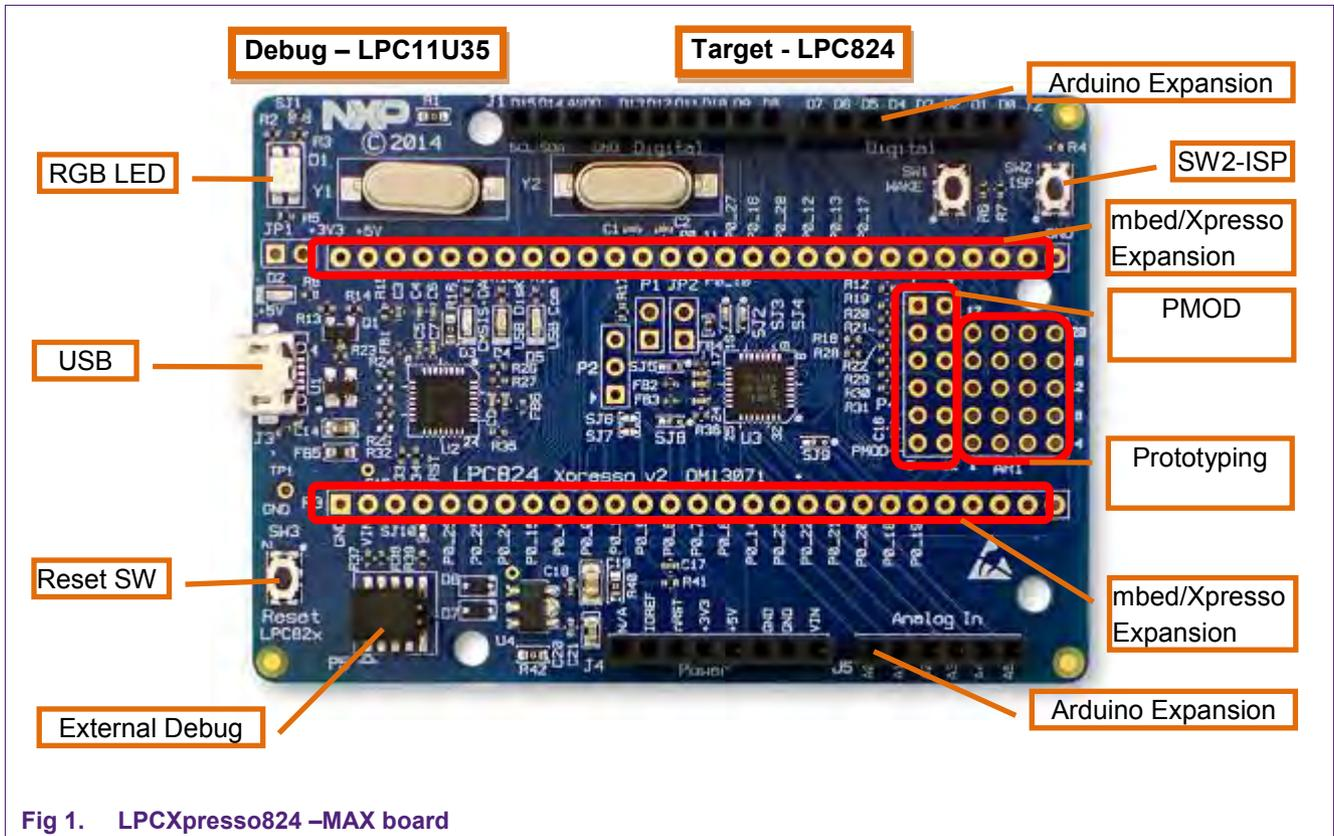

Fig 1. LPCXpresso824 –MAX board
- One can switch to the **One dimensional Mode** (Keys/Button) by pressing SW2 (ISP) switch, see Fig 1 on the LPCXpresso824-MAX board.